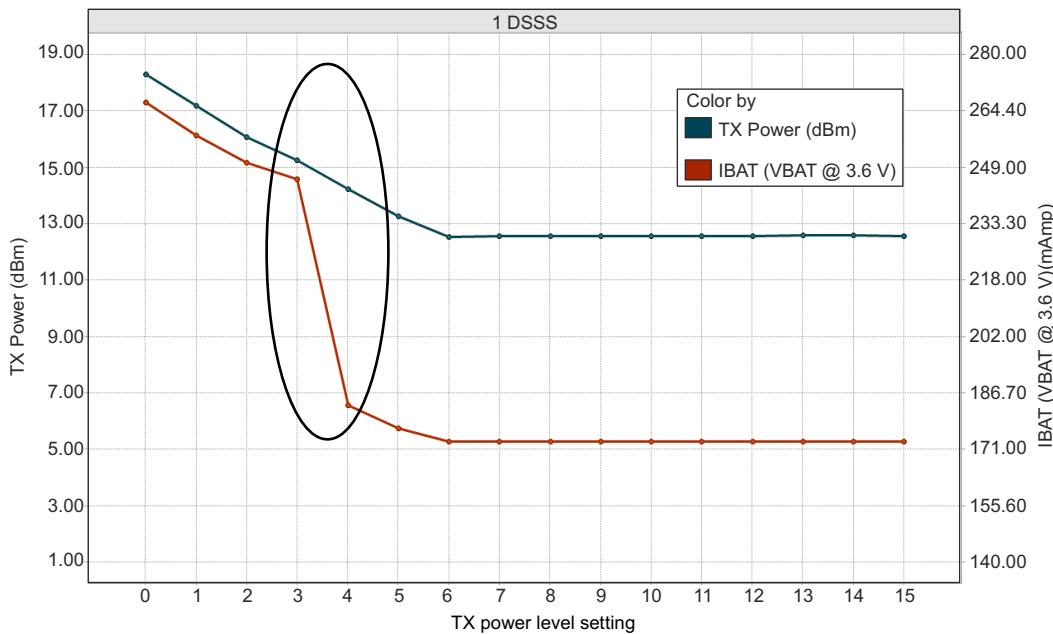
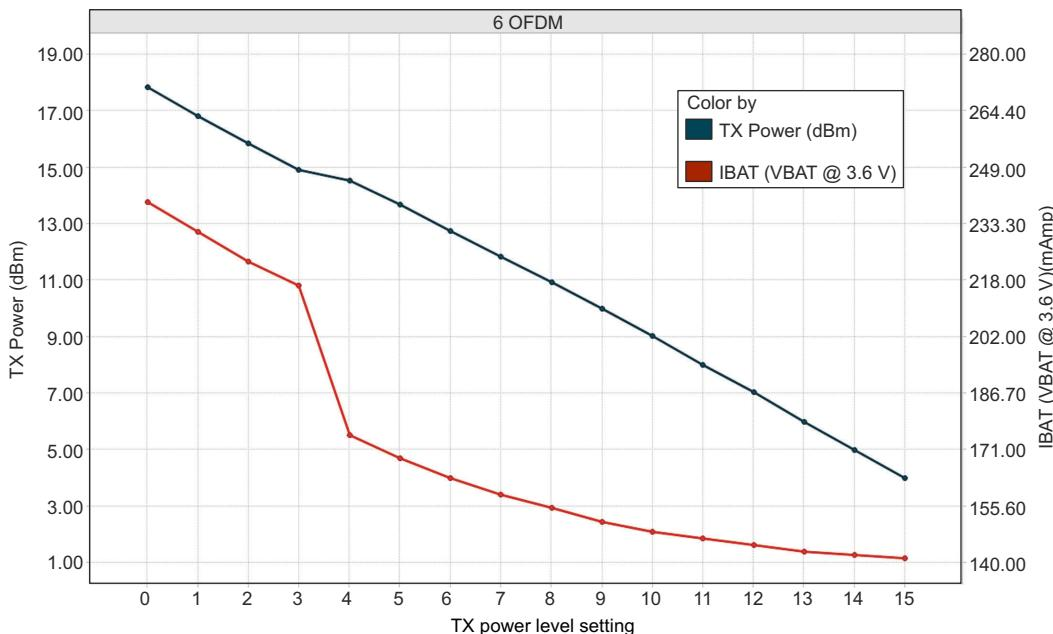
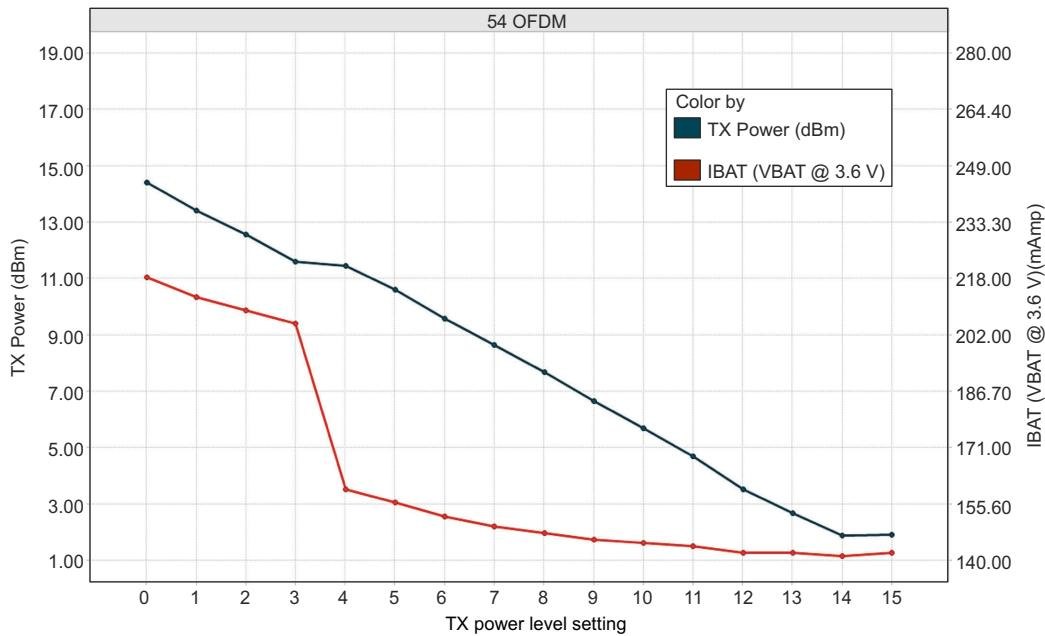

Figure 7-1. TX Power and IBAT vs TX Power Level Settings (1 DSSS)
Figure 7-2. TX Power and IBAT vs TX Power Level Settings (6 OFDM)
Figure 7-3. TX Power and IBAT vs TX Power Level Settings (54 OFDM)
(1) TX power level = 0 implies maximum power (see Figure 7-1, Figure 7-2, and Figure 7-3). TX power level = 4 implies output power backed off approximately 4 dB.
(2) The CC3235x system is a constant power-source system. The active current numbers scale based on the V_{BAT} voltage supplied.
(3) Typical numbers assume a VSWR of 1.5:1.
(4) DTIM = 1
(5) LPDS current does not include the external serial flash. The LPDS number of reported is with retention of 256KB of MCU SRAM. The CC3235x device can be configured to retain 0KB, 64KB, 128KB, 192KB, or 256KB of SRAM in LPDS. Each 64-KB block of MCU retained SRAM increases LPDS current by 4 µA.
- (6) The complete calibration can take up to 17 mJ of energy from the battery over a period of 24 ms. Calibration is performed sparingly, typically when coming out of HIBERNATE and only if temperature has changed by more than 20°C. The calibration event can be controlled by a configuration file in the serial flash.
Figure 7-1, Figure 7-2, and Figure 7-3 show TX power and IBAT versus TX power level settings for the CC3235S device at modulations of 1 DSSS, 6 OFDM, and 54 OFDM, respectively. For the CC3235SF device, the IBAT
In Figure 7-1, the area enclosed in the circle represents a significant reduction in current during transition from TX power level 3 to level 4. In the case of lower range requirements (14-dBm output power), TI recommends using TX power level 4 to reduce the current.